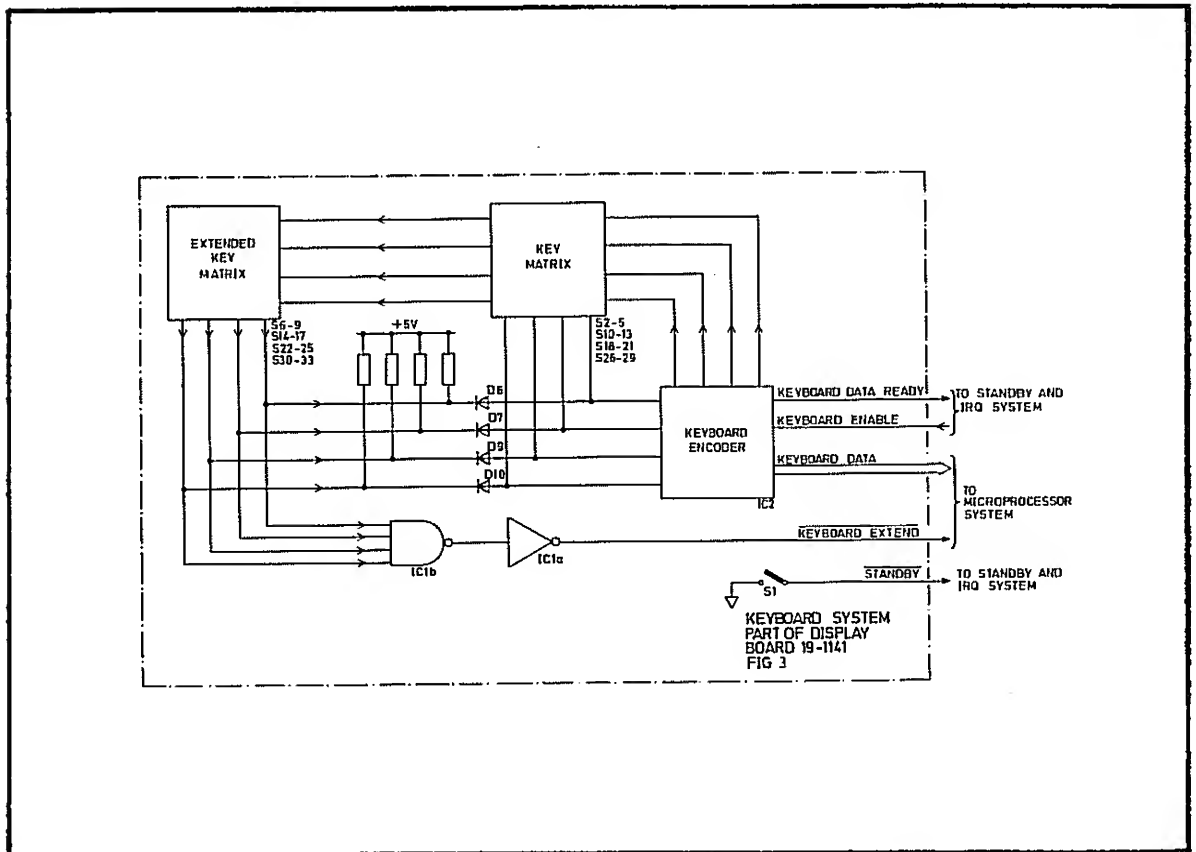

Fig. 6.7 The Keyboard System
- 59 A block diagram of the system is given in Fig 6.7. The encoding of the keyboard data is performed within the system without microprocessor action. An interrupt request (IRQ) is made to the microprocessor when encoding is complete. Data transfer is initiated by the KEYBOARD ENABLE signal from the microprocessor.